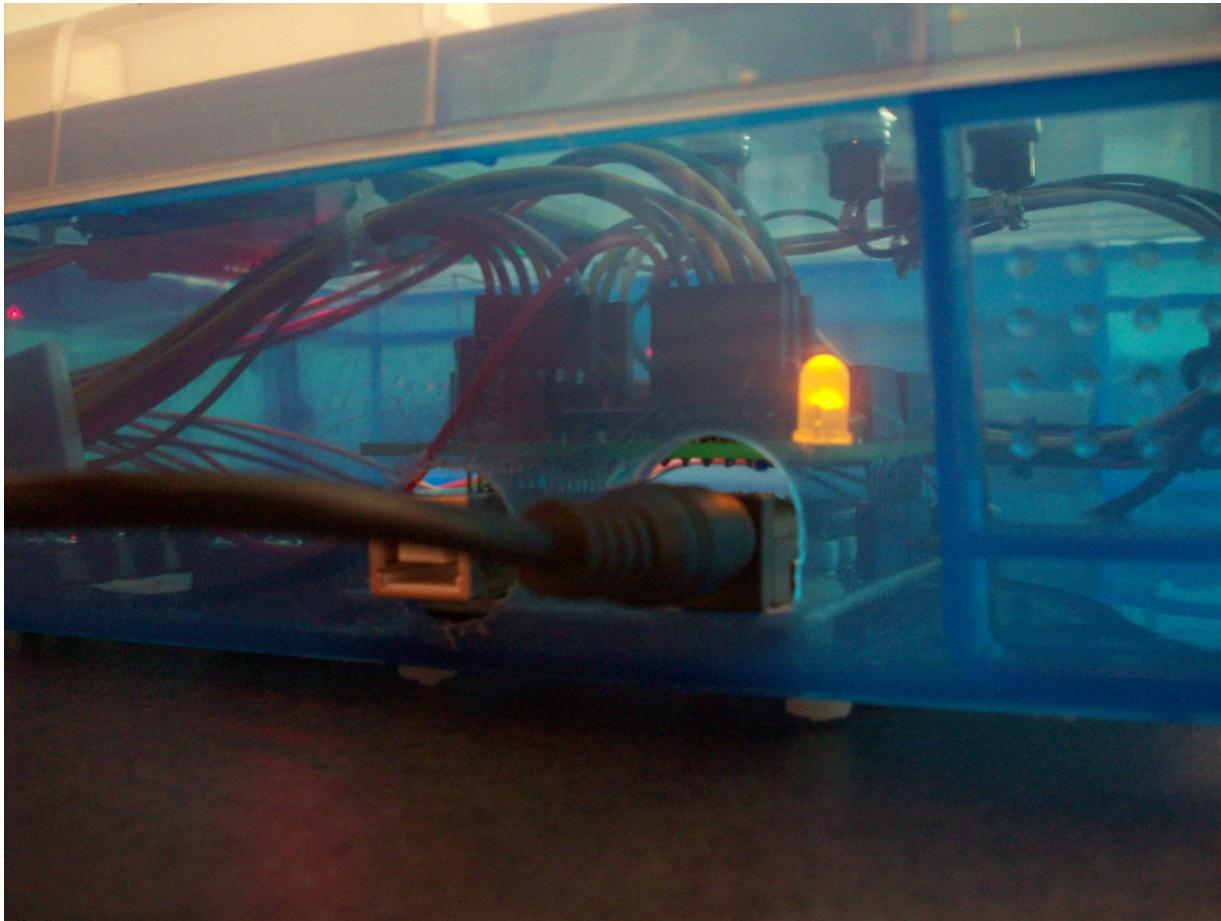

Figure 4-16. Holes for Power and USB Connections to the Uno Board.
The next step will be to mark the locations to drill holes in the side of the box for the two Uno board connectors to protrude though. The goal is to end up with something like figure 4-16.
- Some combination of the above (figure 4-16 has a combination for the power connector).